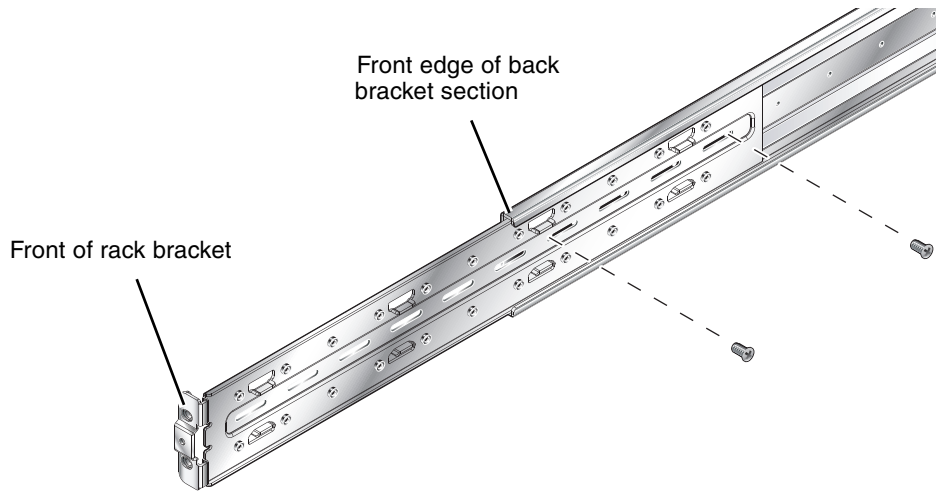

FIGURE 3-3 Connecting the Front and Back Four-Post Bracket Sections (19-Inch, Four-Post Rack)
3. Insert two M4 screws (supplied with the rack mount kit) to each bracket, and finger tighten to connect the front and back bracket sections together (FIGURE 3-3).
Note – Insert one screw through the slot furthest away from the front of the rack bracket. Insert the other screw through a suitable slot nearest the front edge of the back bracket section. Spacing the screws as far apart as possible provides greater bracket rigidity (see FIGURE 3-3).